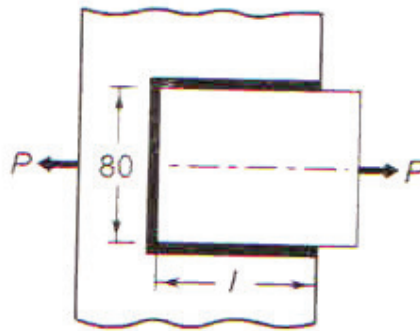

Fig. 1
- b) A steel plate, 80 mm wide and 10 mm thick, is joined to another steel plate by means of a single transverse and double parallel fillet weld, as shown below Fig. 1. The strength of the welded joint should be equal to the strength of the plate to be joined. The permissible tensile and shear stresses for the weld material and the plates are 100 MPa and 70 MPa respectively. Find the length of each parallel fillet weld. Assume that the tensile force passes through the centre of gravity of three welds. [12M]